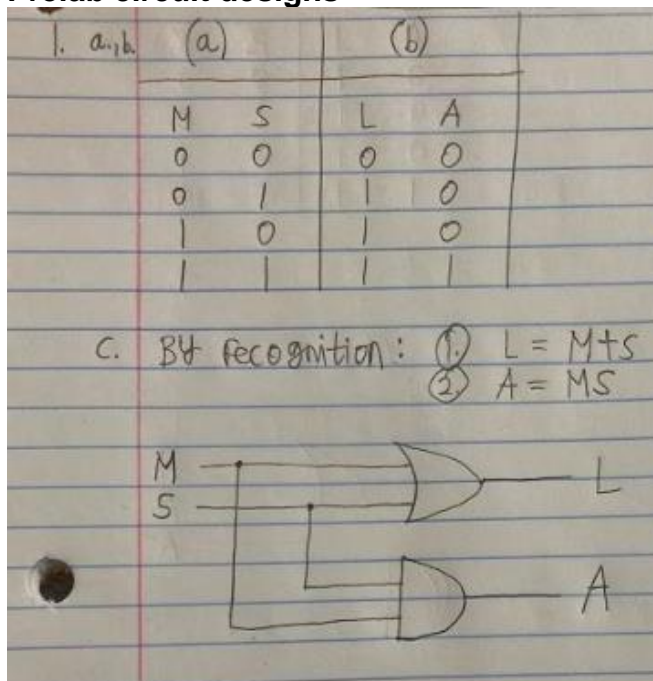

Figure 1. Mulia Widjaja's truth table and logic gate from the prelab
We began with the bread board set up from Part 2 of this lab. On the breadboard we had three different integrated circuit (IC) chips: the 74x04, 74x08, and the 74x32. Respectively, each of the IC chips represented inverter (NOT) logic gates, AND logic gates, and OR logic gates. However, for the logic circuit in part 3 we only need the AND and OR IC chips. So, after removing the unused inverter logic gate chip we used multiple jump wires to create a circuit and connect the LEDs, motion sensor, switch, and the alarm according to our schematics drawn for our prelab assignment (figure 1 and 2). As for the AND logic gates, we connected Pin 1 and Pin 2 for our factors (value to be passed to the AND gates) and Pin 3 for our products (value after being passed through the AND gates). Similarly, as for the OR logic gates, we connected Pin 1 and Pin 2 for our addends (value to be passed to the OR gates) and Pin 3 for our sum (value after being passed through the OR gates).